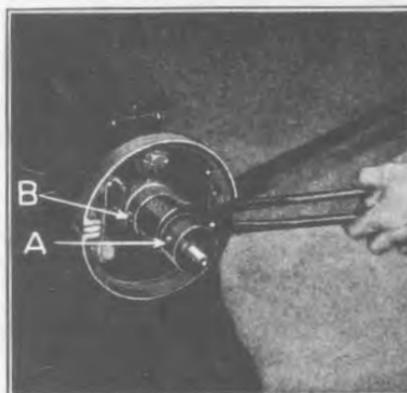

Fig. 356
- 636 The roller bearing sleeves are made in rights and lefts. When installing, make sure that the oil hole in sleeve (See "A" Fig. 355) is above slot "B" with the locking point "C" facing outer end of sleeve. To install the sleeve insert it into housing, making sure that the locking point (See "A" Fig. 356) on sleeve enters hole "B" in axle housing. This prevents any possibility of the sleeve turning or slipping in the housing.